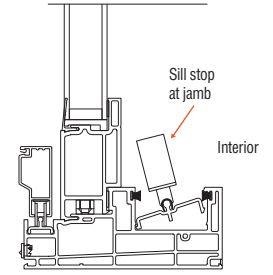

fig. 21 - Slim Line model
- a. With the active panel removed, it will be necessary to remove the sill track and the sill stop from the Slim Line Patio Door. (**fig. 21**)